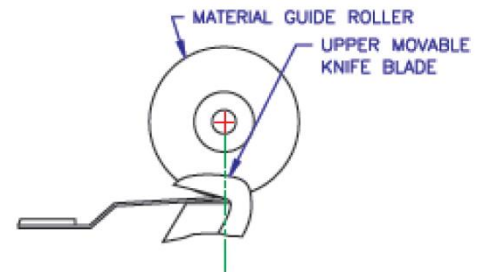
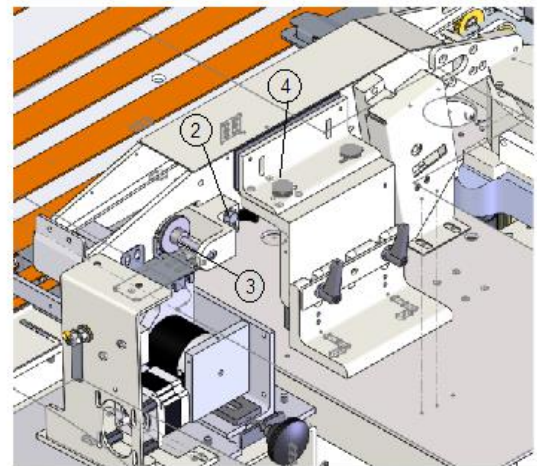

Fig. 2
Fig. 4
This is accomplished by loosening the two 1/4-20 bolts (2) (Fig. 4, page 1-17) attaching the material guide roller support block to the frame of the upper conveyor.
- d) The material guide roller should be adjusted along the sewing plane so as to be centered at the right 1/3 (Fig. 2) of the cutting edge of the upper movable knife blade. This is accomplished by loosening the two 1/4-20 bolts (4) (Fig. 4) located in the slotted holes of the upper conveyor mounting bracket. After locating the material guide roller properly, tighten the two 1/4-20 bolts securely.